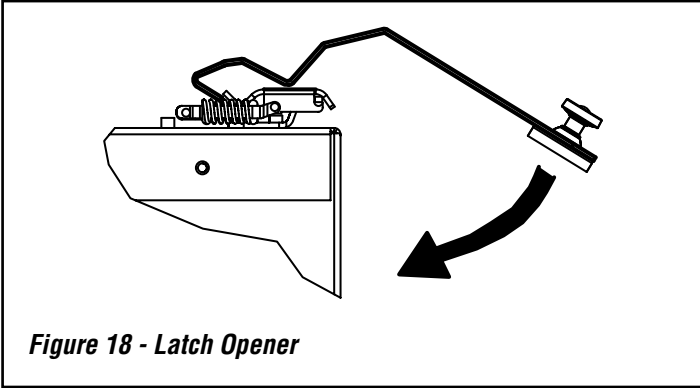

Figure 18 - Latch Opener
2. Hook opener over latch as shown in **Figure 18**. Swing the bottom of the opener down toward the door. You will not need to pull down.